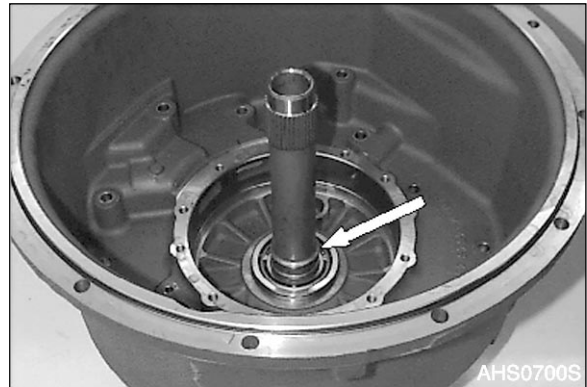

Figure 90
7. Remove both rectangular rings (Figure 90).